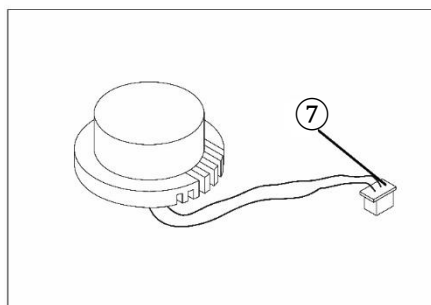

Fig. 14
1. Generally, the LED has a long service life and is not easily damaged. If damaged, purchase a new one from your supplier. (Fig. 14)
2. Remove the base plate ③ from the bottom of the microscope with screw driver, remove screw ④ to take off the old LED, pull out the other end of LED wire from the breadboard ⑥, and replace with the new LED.
3. Put the new LED unit back onto the bracket with the screw ④ and insert the end of the LED wire onto the breadboard ⑥.
4. Install the base plate ③ back onto the bottom of the microscope with original screws.